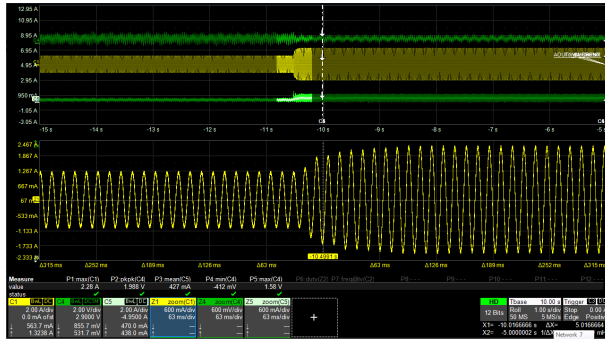
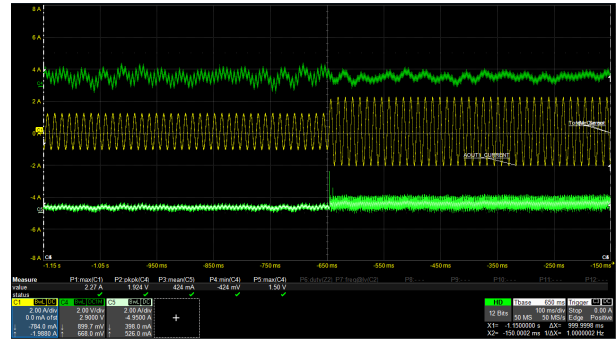

Figure 2-19. Load Transient With  $K_P = 1$
Figure 2-20. Load Transient With  $K_P = 5$
- In general, increasing the  $K_P$  increases the speed of the control system response, as shown by Figure 2-19 and Figure 2-20.